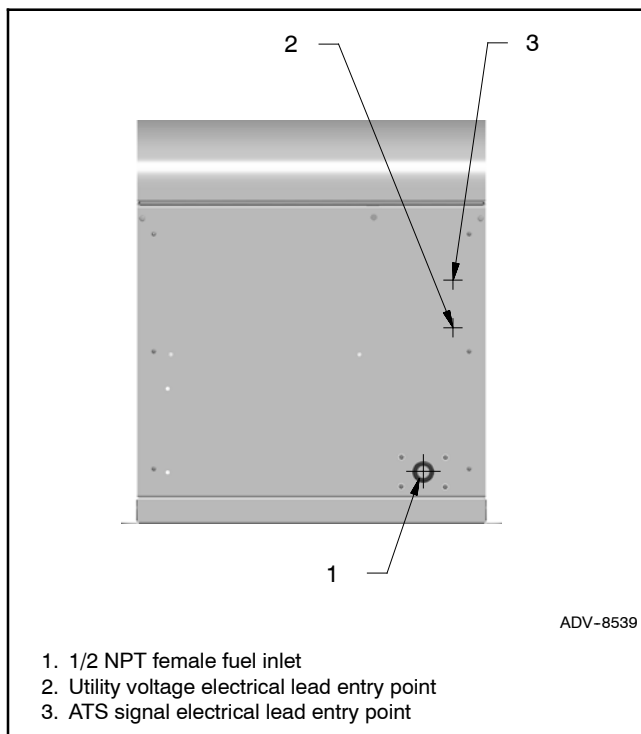

Figure 1-16 Electrical Lead Entry Locations
Drill or punch holes in the enclosure for the electrical conduit in the locations shown in Figure 1-16.
1. Drill holes for the conduit fittings. See Figure 1-16 for the recommended electrical inlet locations. Feed the cables through the openings.